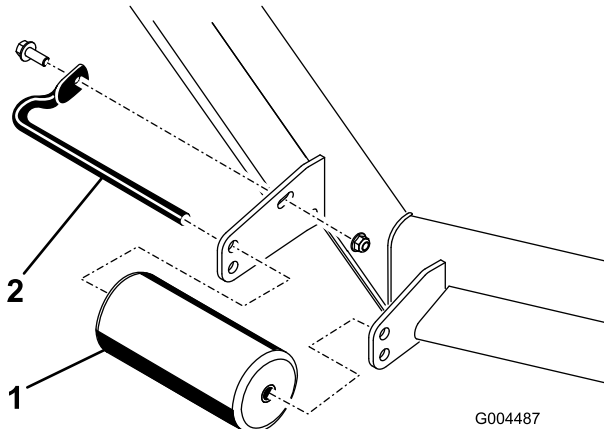

Figure 28
4. Remove the fasteners securing each roller on your mower deck and move the rollers up or down as desired; refer to Figure 28 through Figure 32 as applicable for your mower.